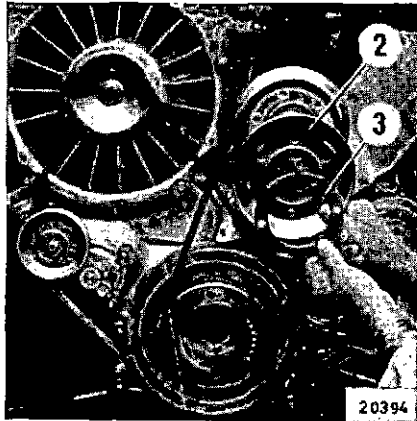

Fig. 36
3. Remove one or more shims 3 (Fig. 36) — as may be required — from inside and place removed shim(s) outside on half-pulley 2.